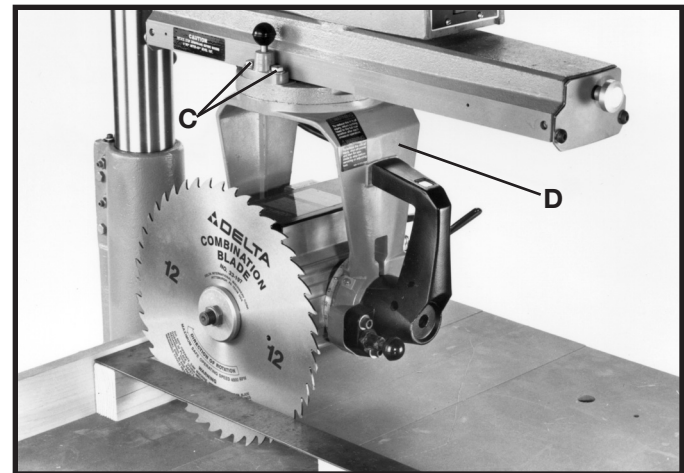

Fig. 56
4. If the blade is not parallel to the square, an adjustment is necessary. Loosen yoke clamping handle and the two screws (C) Fig. 56. Swivel the yoke (D) until the saw blade is parallel with the square. Then tighten yoke clamping handle and two screws (C) Fig. 56.